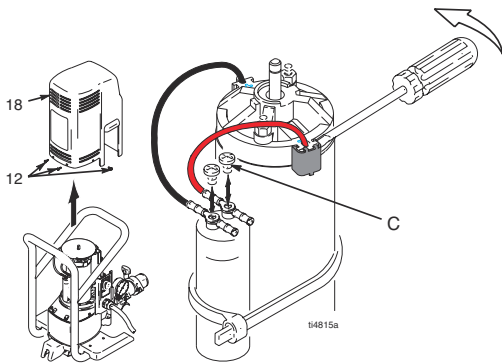

FIG. 3
3. Fig. 3. Remove six screws (12) and motor cover (18).
4. Fig. 3. Discharge any residual capacitor voltage with a resistive load across terminal screws (41).